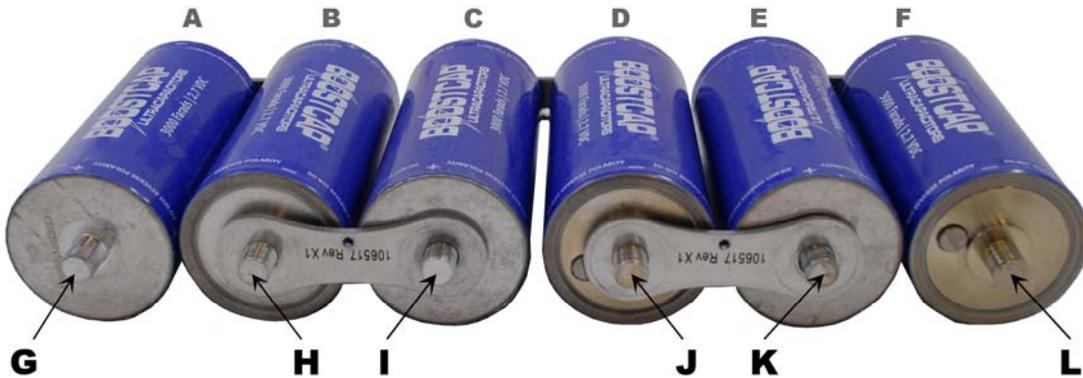

Figure 6
- 3.2.5 Turn the cells around so that the threaded terminals opposite to terminals A - F are facing you. Place buss bars over the middle pairs of threaded terminals (marked H, I, J and K in Figure 6), with antioxidant facing towards capacitor.